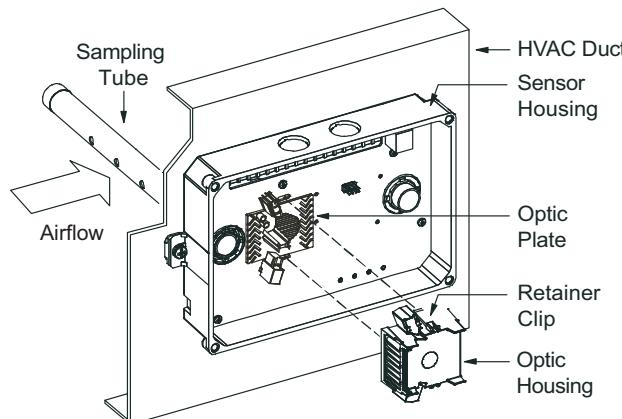

Fig. 60 – Sensor Cleaning Diagram
1. Disconnect power from the duct detector then remove the sensor's cover. (See Fig. 60.)